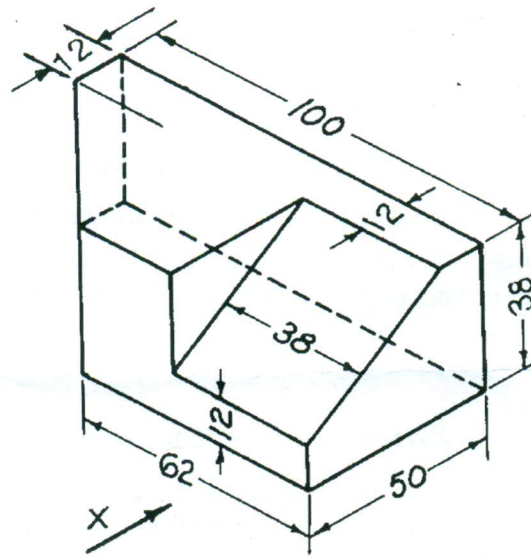

Fig.2
15. Draw the following views for the object shown in Fig.2